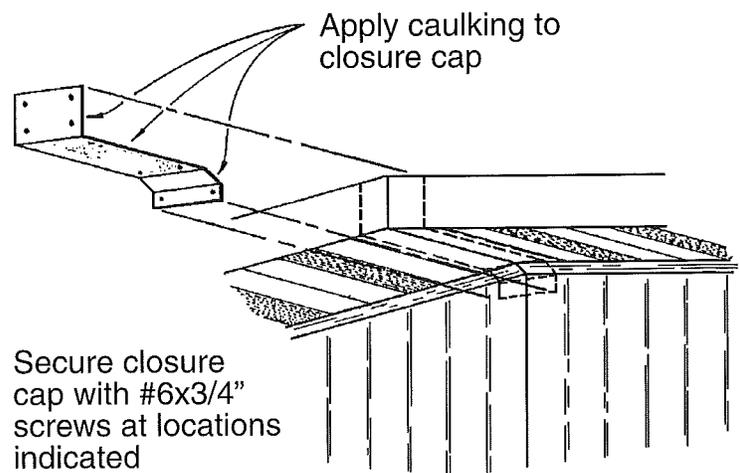

FIG. 5-26
- 11. Install closure cap at eave joint (See Fig. 5-26).